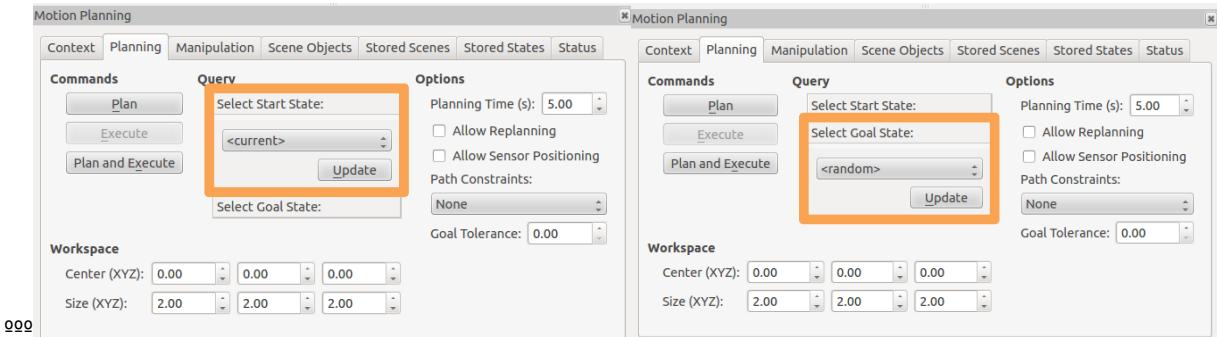

Figure 127: Tab to set start state (left) and tab to set goal state (right).
3. In order to use motion planning, a Start State and Goal State has to be known. To do this with the *MoveIt!* GUI, navigate to the tab called “Planning” in the display called MotionPlanning. On this tab, further nested tabs provide the functionality to update Start State and Goal State, as depicted in figure 127.